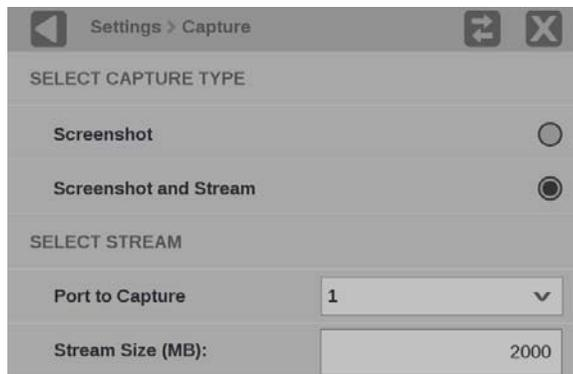

Figure 78: Selecting Screenshot and Stream
4. Select **Screenshot and Stream** under SELECT CAPTURE TYPE. (See Figure 78.)